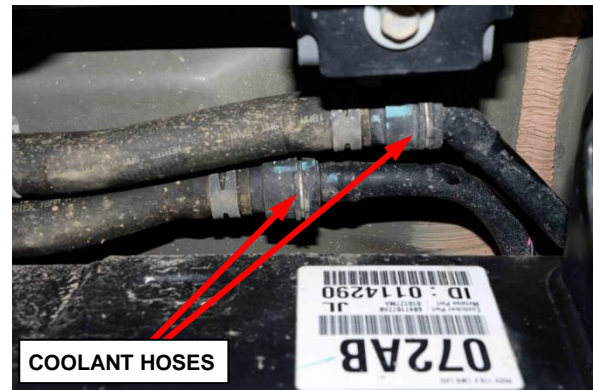

Figure 21 – Coolant Hoses
13. Position a drain pan under the coolant hoses (Figure 21).
14. Remove the coolant hoses from the coolant line and drain the power electronics cooling system (Figure 21).
15. Once the system is completely drained, reinstall the coolant hose to the coolant line (Figure 21).